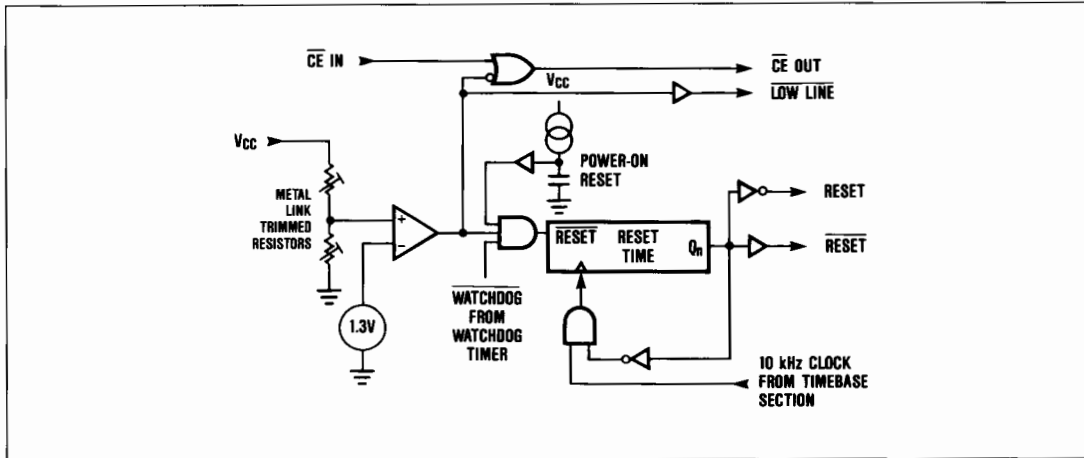

Figure 5. Reset Block Diagram
**RESET** is an active low output which goes low whenever  $V_{CC}$  falls below 4.5V (MAX690/691/694/695) or 4.25V (MAX692/693). It will remain low until  $V_{CC}$  rises above 4.75V (MAX690/691/694/695) or 4.5V (MAX692/693) for 50 milliseconds\*. See Figures 5 and 6.
The MAX691, MAX693 and MAX695 use two pins to control the Chip Enable or Write inputs of CMOS RAMs. When  $V_{CC}$  is +5V, CE OUT is a buffered replica of CE IN, with a 50ns propagation delay. If  $V_{CC}$  input falls below 4.65V (4.5V min, 4.75V max) an internal gate forces CE OUT high, independent of CE IN. The MAX693 CE OUT goes high whenever  $V_{CC}$  is below 4.4V (4.25V min, 4.5V max). The CE output of both devices is also forced high when  $V_{CC}$  is less than  $V_{BATT}$ . (See Figure 5.)